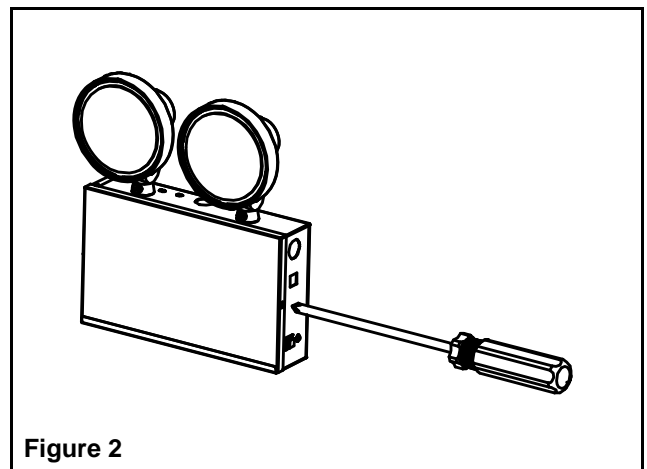

Figure 2
3. To remove the cover: unscrew the screws located on the each side of the cover (see figure 2).